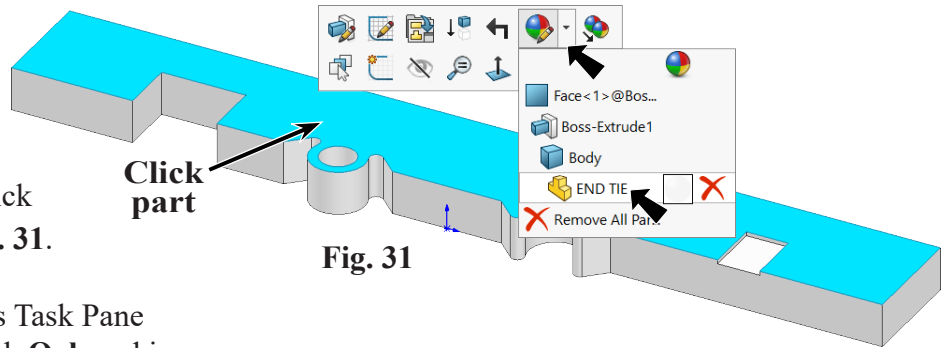

Fig. 31
Step 1. Click the part, click **Appearance Callout**  on the context toolbar and click **END TIE** , Fig. 31.